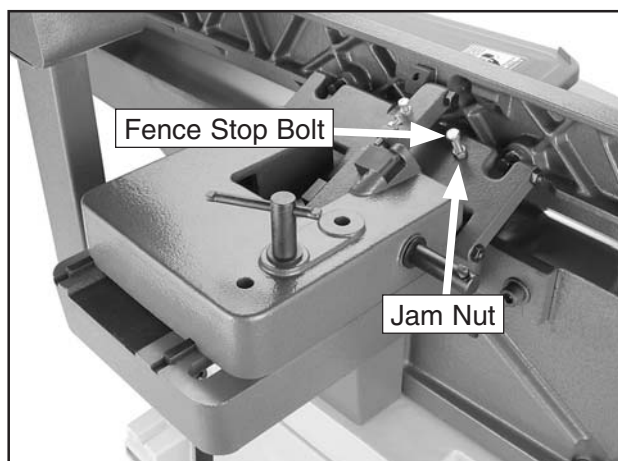

Figure 49. 45° outward fence stop jam nut.
2. Loosen the jam nut on the 45° outward fence stop bolt (**Figure 49**).